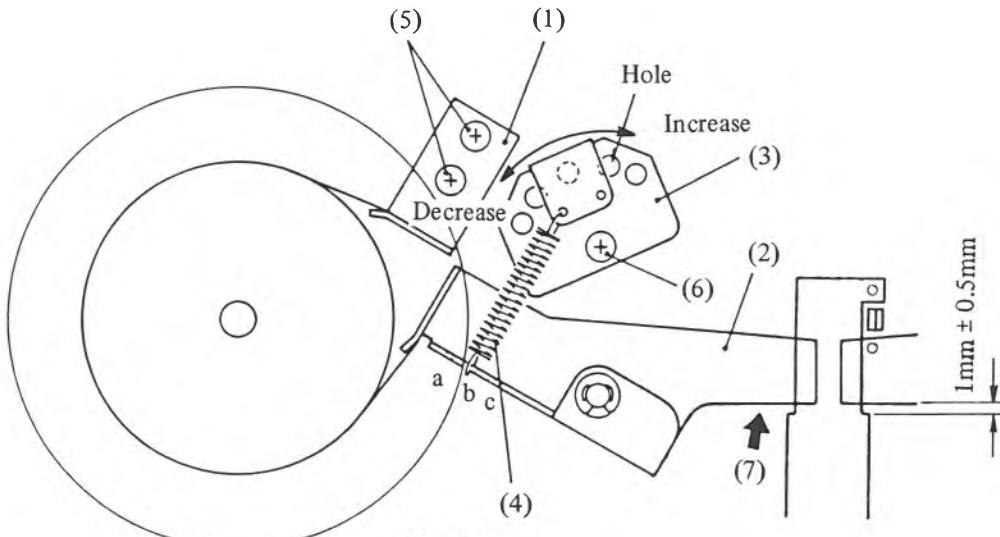

Fig. 4.1
The distance between Brake Arm (2) and Brake Slider (7) must be in $1 \pm 0.5\text{mm}$ as shown in Fig. 4.1 below. The distance can be adjusted by adjusting the position of Brake Arm (2) with two screws (5).
- 5) If adjustment is required, loosen screw (6) of Fig. 4.1, and rotate the bracket (3) of Fig. 4.1. Rotate it to the right if torque is low and to the left if it is high for brake L.